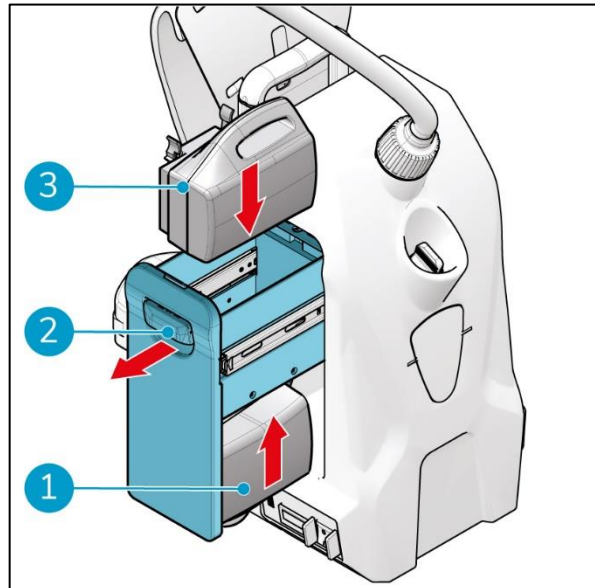

Figure 11
1. Open the battery holder (Figure 11, pos 2) at the side of the i-cover 2.5.
2. Place the blue coded battery in the blue battery slot at the top (Figure 11, pos 3).
3. Place the gray coded battery (option) in the gray battery slot at the bottom (Figure 11, pos 1).
4. Close the battery holder (Figure 11, pos 2).